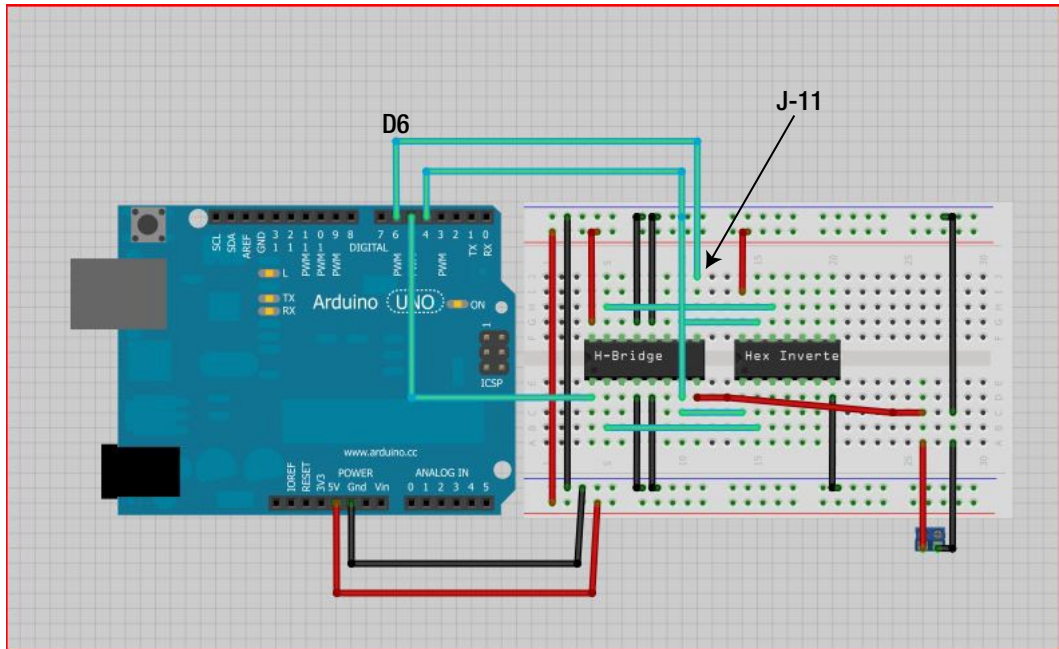

Figure 31-15. Connect digital pin 6 on the Arduino to J-11 of the breadboard
15. Connect digital pin 6 on the Arduino to J-11 of the breadboard. Figure 31-15 illustrates this process.